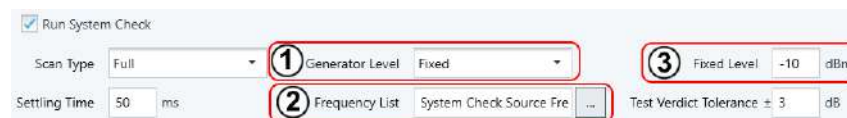

Figure 4-46: Settings 2 and 3 depend on the generator level selection (1)
- "Fixed" allows selecting a frequency list (see 2 in Figure 4-46) together with specifying a fixed generator level (3).
- "LimitLine" allows selecting a frequency list (2) together with specifying a fixed offset (3) from the selected limit line (see below). When you select a limit line, R&S ELEKTRA performs measurements only for ranges that the limit line covers. The level calculation considers only the first detector limit defined in the selected limit line.
- "Normalization" allows selecting a normalization table (2) that contains frequencies and predefined levels at these frequencies.
- (2)